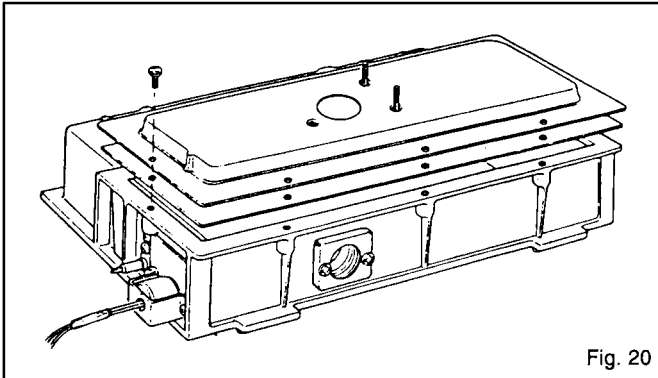

Fig. 20
- b) Remove hot surface igniter, flame sensor. Fig. 19 and burner Fig. 20.
- b) Remove 8 M5 screws retaining burner to the combustion chamber. Fig. 20.